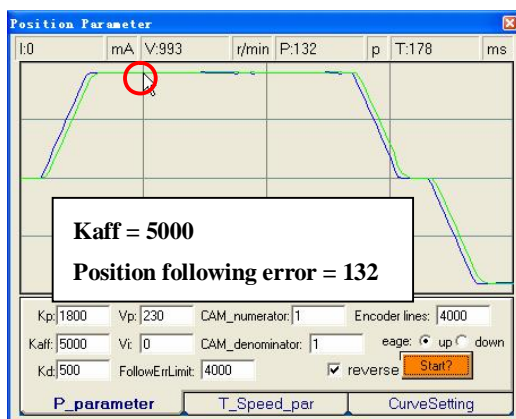

Figure 6-33: Increase Kaff to 5000 for quick response
Step 4: Increase **Kaff** to 5000 and 10000. The position following error reduces to 132 and 86, respectively. See figure 6-33 and 6-34.